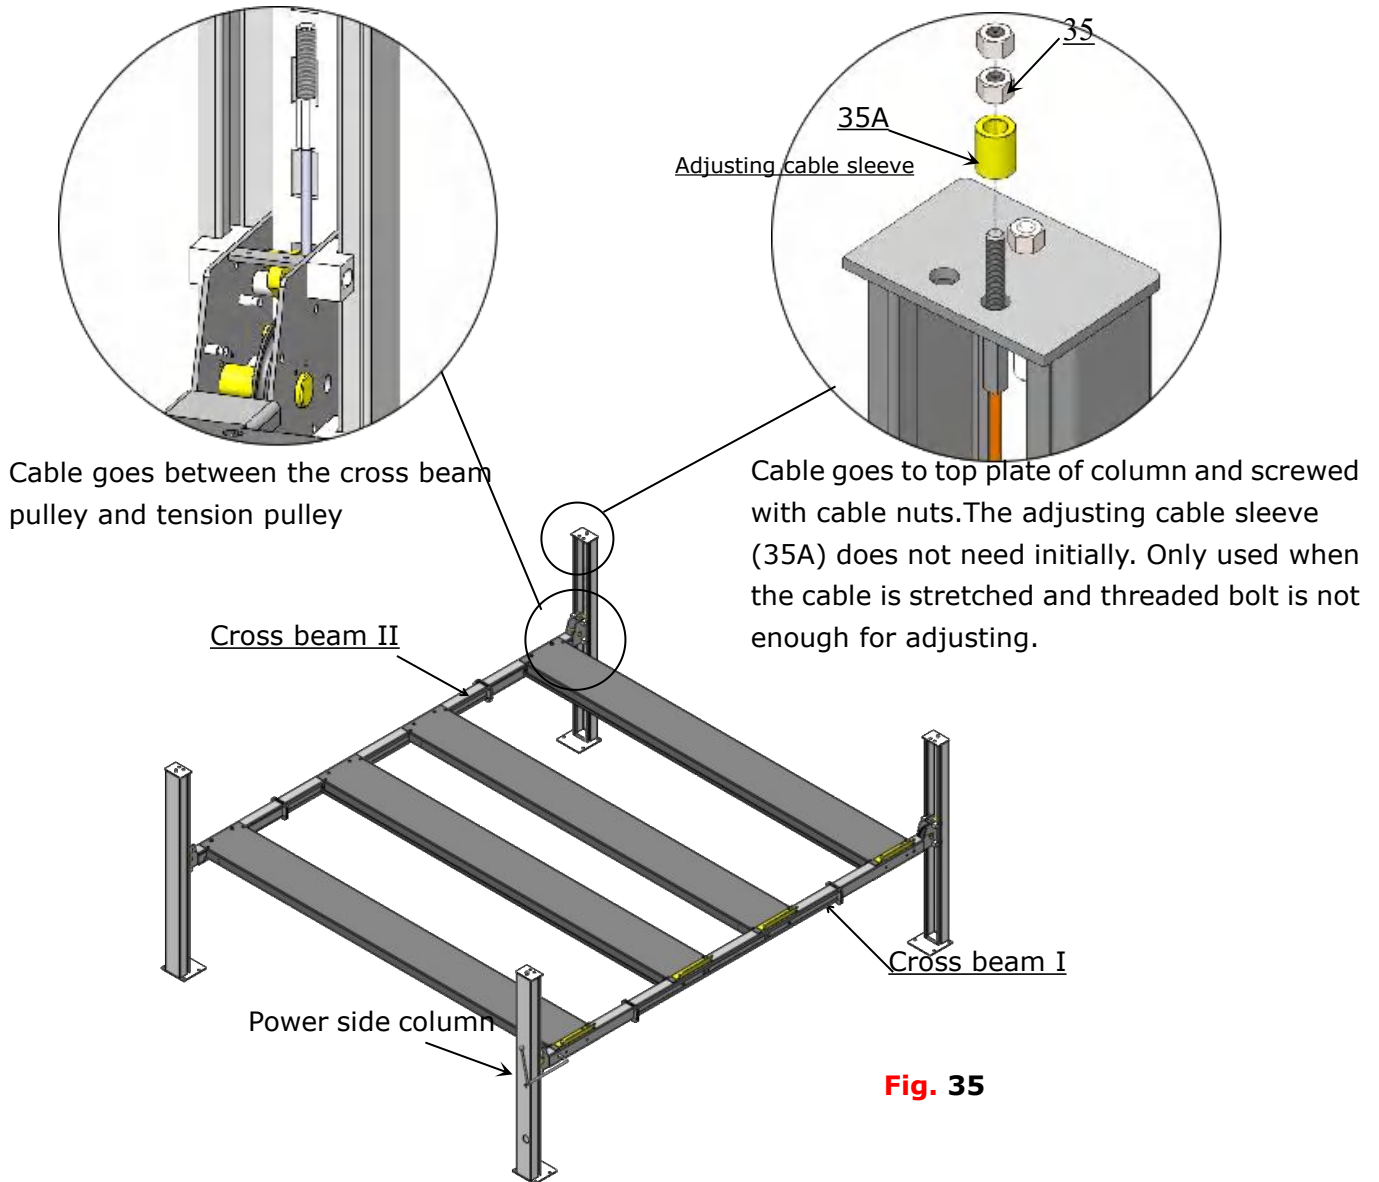

Fig. 35
2. Pass the cables through the cross beam pulley and tension pulley to top plate of column and screw with cable nuts (**See Fig. 35**).